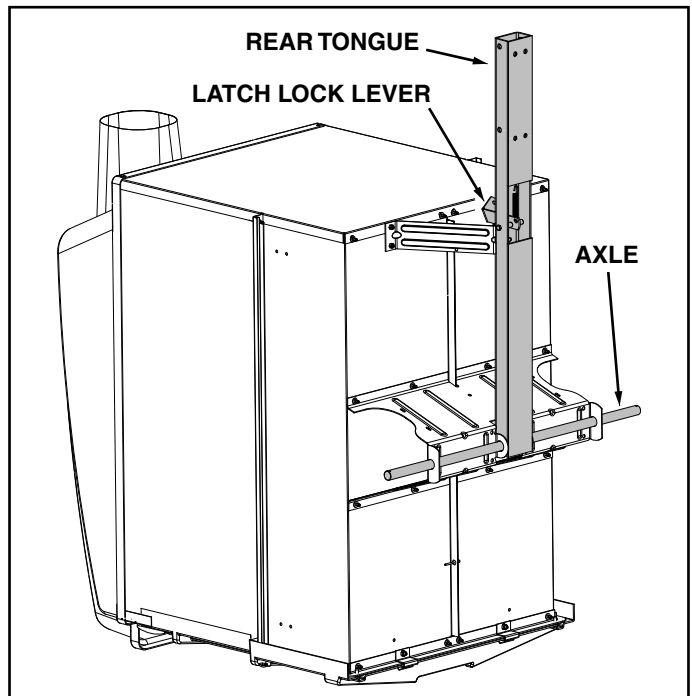

FIGURE 3
4. Install the rear tongue and the axle onto the cart body, sliding the axle through the wheel support and the tongue. Lock the tongue to the latch stand bracket with the foot pedal latch. See figure 3.